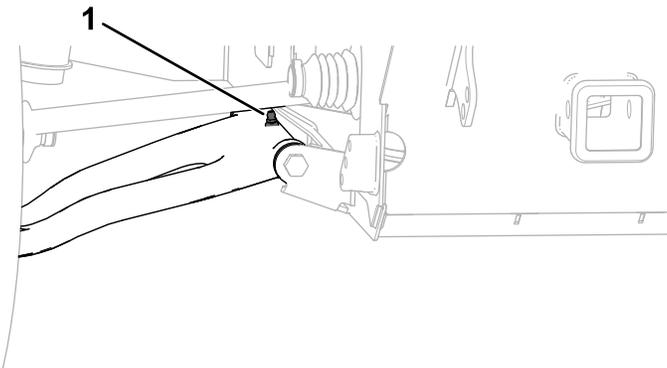

Figure 23
- **Front-control-arm pivots (2);** refer to Figure 23